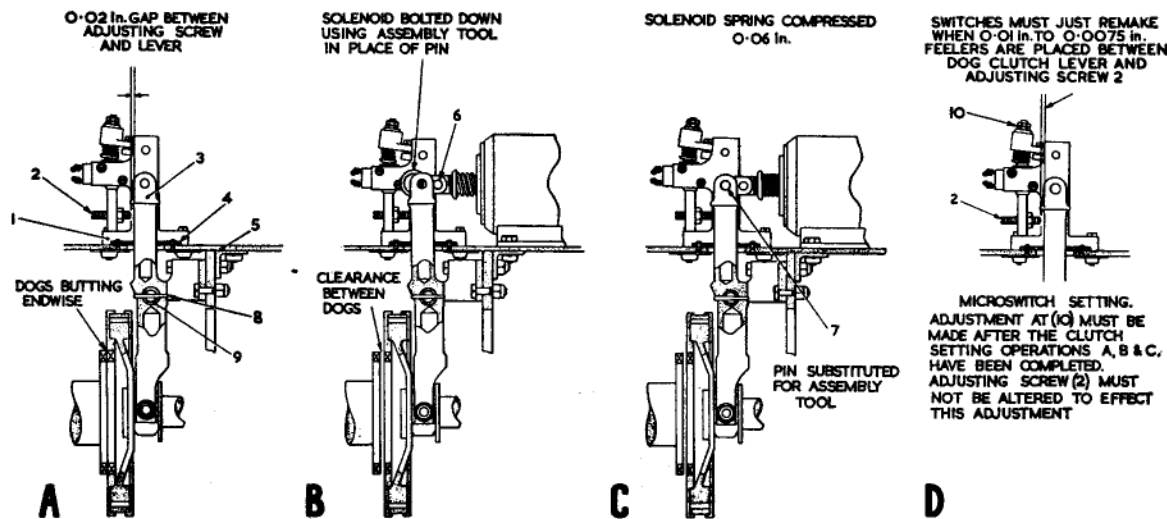
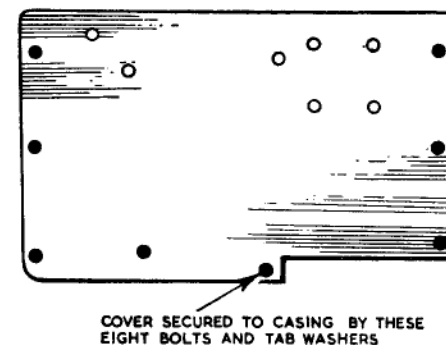

Fig. 20. Dog clutch setting
Fig. 21. Cover plate assembly detail
(12) Press the seal (7) into the shaft locator cap (4), taking care not to damage the sealing edge.
(13) Fig. 20. Fit the hinge pin (9) securing the clutch lever (3) in its supporting bracket. Lock the pin with taper pin (8). Engage the lever slippers with the thrust flanges of the dog clutch and bolt the lever bracket to the diaphragm plate.
(14) Fig. 20. Pass the rubber seal (4) on the casing cover plate (5) over the clutch lever, and bolt the plate to the gearcase by the eight bolts and tab-washers as shown in fig. 21.
(15) Fig. 20. Position the dog-clutch solenoid.